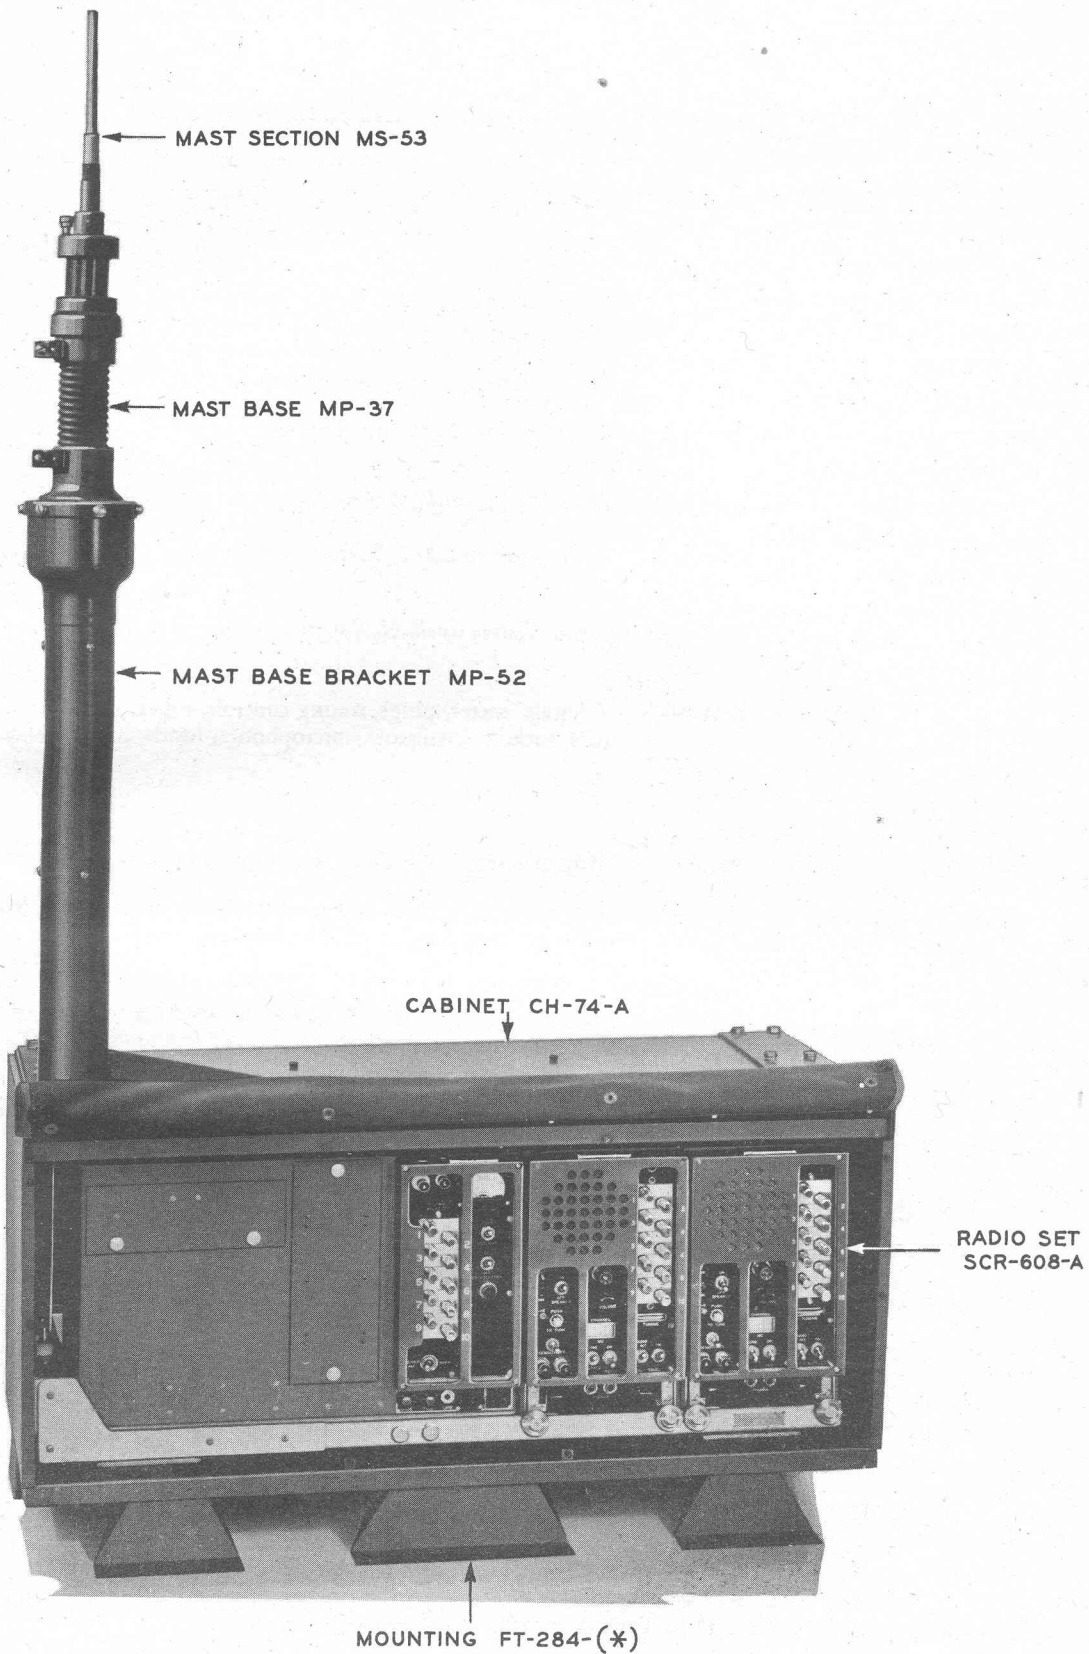

Fig. 1. Radio Set SCR-608-A: Front View of Cabinet CH-74-A with Associated Components
a. *Arrangement and Weight of Major Components.* The general construction and arrangement of Radio Sets SCR-608-A and SCR-628-A are shown in Figs. 1 and 2. Over-all component and assembly dimensions are shown in Fig. 3. The radio sets consist of these combinations of major units: